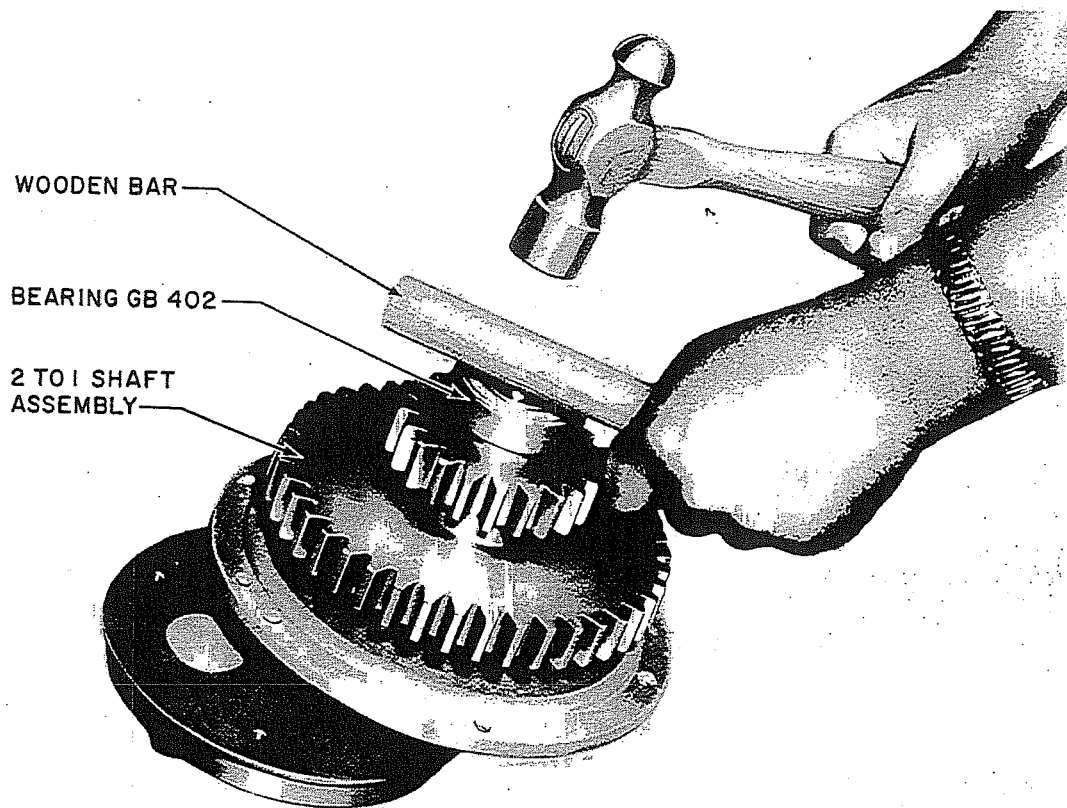

Figure 23. 2 to 1 Shaft, Installation of Bearing GB402
- Q. Secure the bearing pulling attachment behind Bearing GB402 and apply pressure to Deck Lift Crank Eccentric GB418 at the axial center line of the shaft. The shaft and bearing should be cleaned and lubricated prior to assembly. The bearing can also be installed by tapping it on with a hammer and wooden block (figure 23).